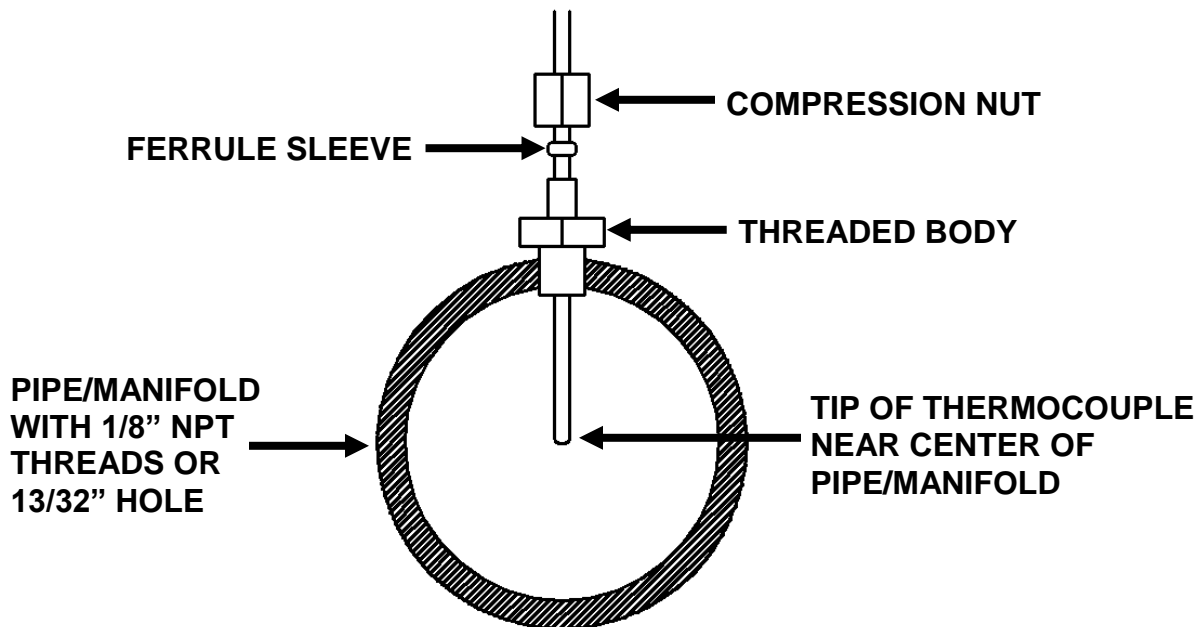

Figure 2. Thermocouple Mounting
5. Mount the thermocouple as shown in figure 2.